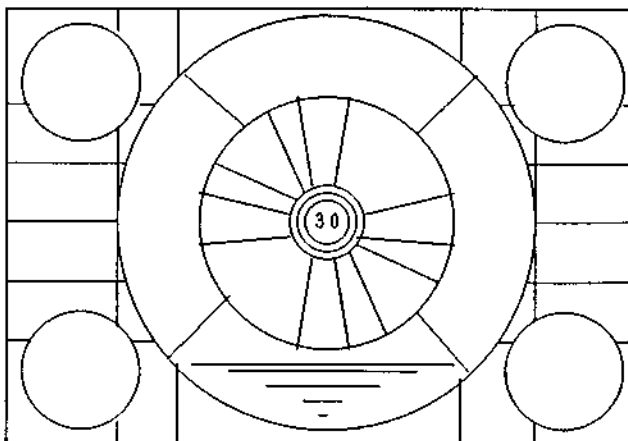

FIG. E6
2. Adjust VR2010 (SP), and VR2009 (LP) respectively on the Servo pack so that the V-dancing does not appear on the TV Monitor as shown in FIG. E6.